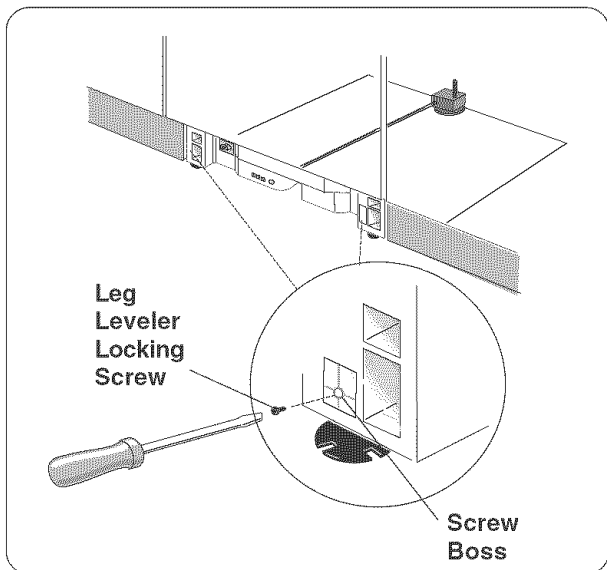

Figure 23
- 2 After the unit is installed in the enclosure, leveled and secured, lock the two front leg levelers in place by driving the enclosed leg leveler locking screws into each screw boss located in front of the levelers. See **Figure 23**.